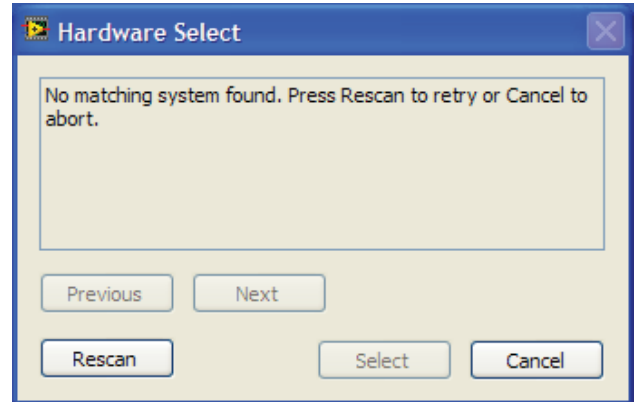

Figure 8. Connectivity Error
3. If the EVAL-SDP-CB1Z is not connected to the USB port when the software is launched, a connectivity error displays (see Figure 8). Plug the USB cable into the EVAL-SDP-CB1Z, then plug the EVAL-SDP-CB1Z into the EVAL-AD7293SDZ, wait a few seconds, click **Rescan**, and follow the instructions.